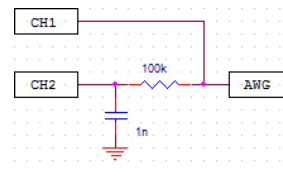

Figure 61: RC Circuit
- 1) Build the circuit shown on figure 61.